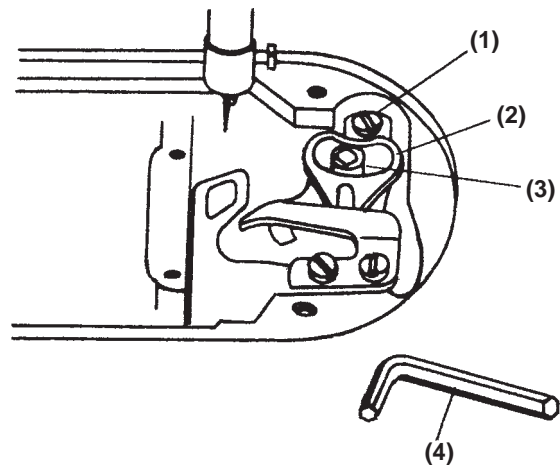

Fig. 25
- 3) Loosen and take out moving knife hinge screw (Fig. 25 (3)) using 3 mm hexagonal wrench key (Fig. 25 (4)).
- 4) Loosen and remove knife forked base hinge screw (Fig. 25 (1)). Lift up knife forked base (Fig. 25 (2)) and remove the pin of moving knife from the forked groove in the knife forked base.
- 3) Remove knife installing base setscrew (Fig. 33 (5)), and remove knife installing base (Fig. 25 (4)).